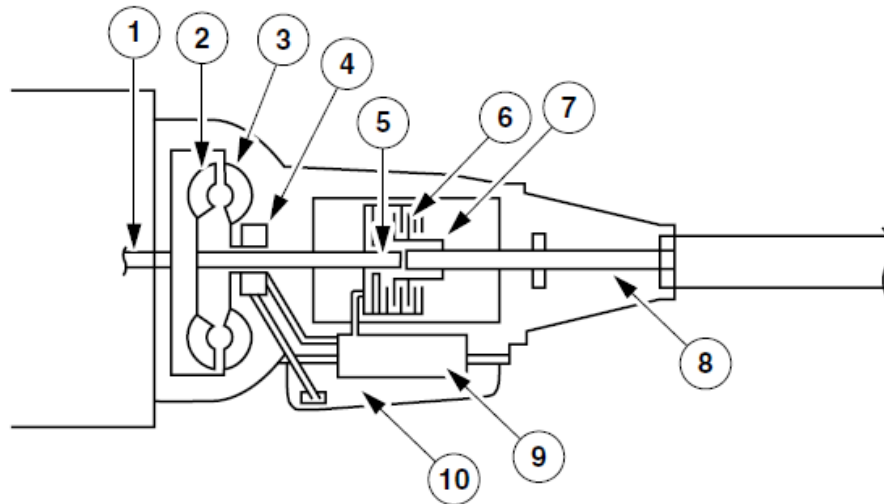

Figure 1
- (b) The **Figure 1** shows the schematic of basic power flow for the automatic transmission. Describe the power flow from the engine to output shaft of the automatic transmission.